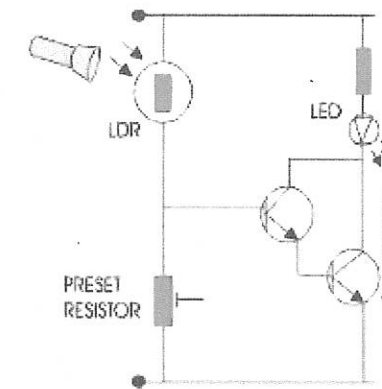

Figure C1a / Rajah C1a
a. Figure C1a shows the light sensor circuit. Explain the operation of the circuit.